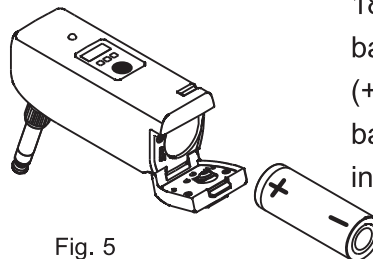

Fig. 5
(B) Install a fully-charged 18500 rechargeable battery with positive (+) polarity end of battery towards inside, Fig. 5.